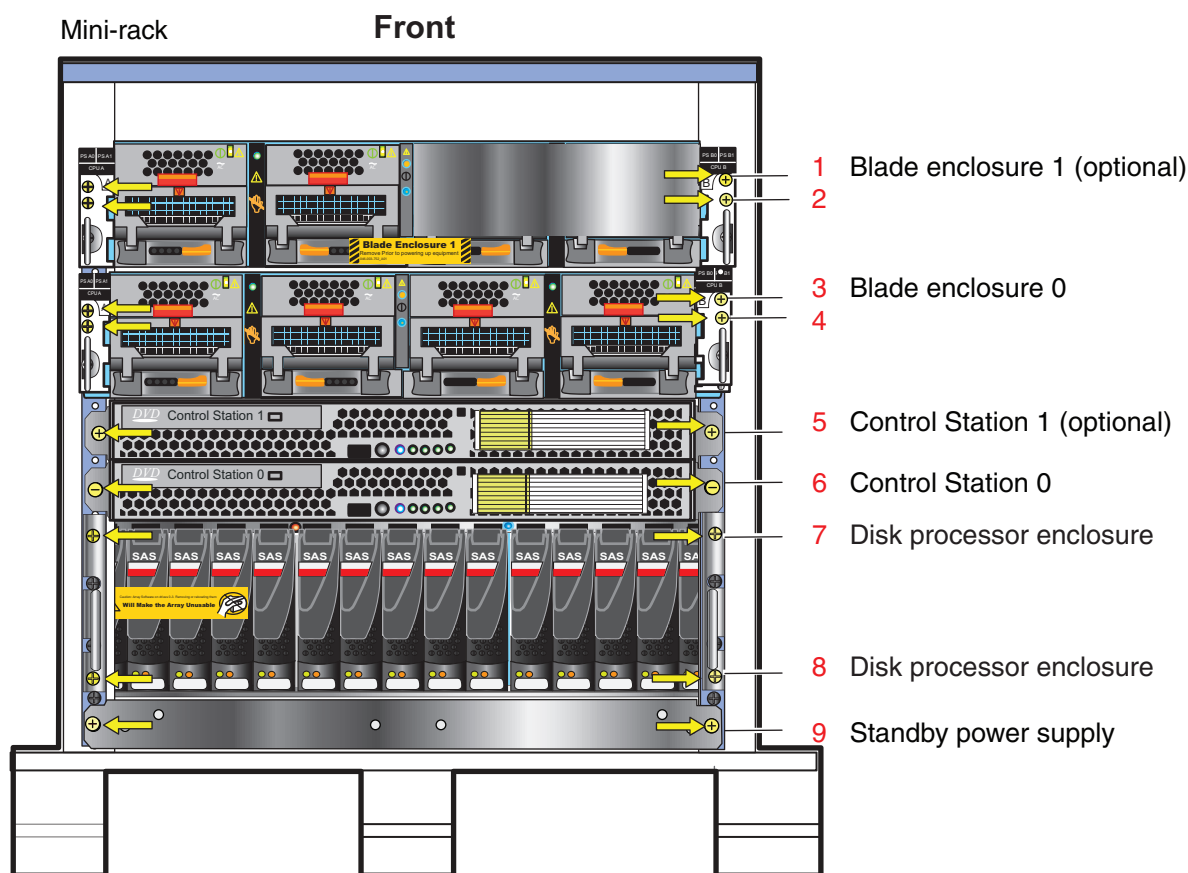

Figure 1 Mini-rack components
2. Remove only the screws (colored yellow in Figure 1) holding the components in the mini-rack. The yellow colored arrows in Figure 1 point you to which screws to remove.